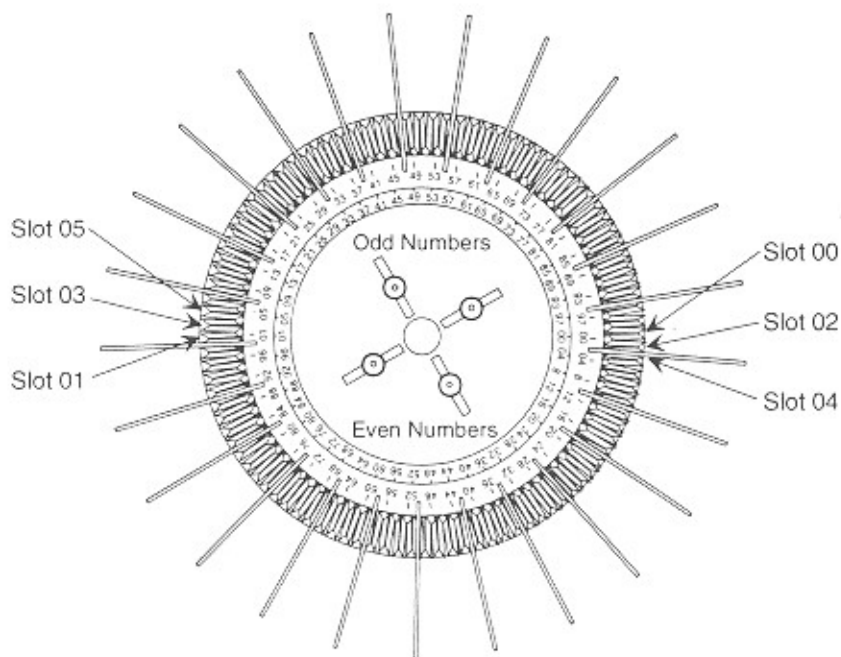

Figure 3-2. Loading the Molded CD Magazine
4. Slide the old CD out of the slot and slide the new CD into the slot (See Figure 3-2) with the label to the right. Write the disc number on a note pad.
For example, on the even numbered half of the magazine, slots 00, 04, and 08 are labeled, and the slots in between – 02 and 06 – are not, as illustrated in Figure 3-2.